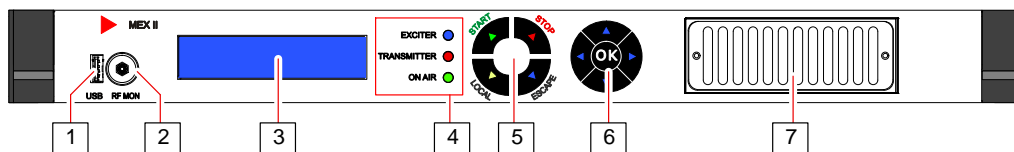

Fig. 3.3 – MEX Exciter front panel
- Tab. 3.3 refers to Fig. 3.3 which is the call out of “MEX Exciter” front panel
Tab. 3.3 – MEX // Exciter front panel legend (ref. Fig. 3.3)